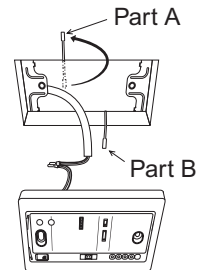

Fig. 8-7
- (4) Bend parts A and B of the metal fitting so they hold onto the ceiling firmly. (Fig. 8-7)
- (5) Connect the receiver's wiring (2 cores) with the wiring from the indoor unit. (Refer to the chapter on wiring the receiver.) When wiring receivers, be sure to double-check the terminal numbers of the indoor unit before connecting them so there are no mistakes in the wiring. (Damage will occur if high voltage [e.g. supply voltage] is applied.)
- (6) Adjust the enclosed spacers so they are several millimeters thicker than the ceiling material and hold the receiver in place temporarily with the 2 enclosed machine screws. (M4 X 40)